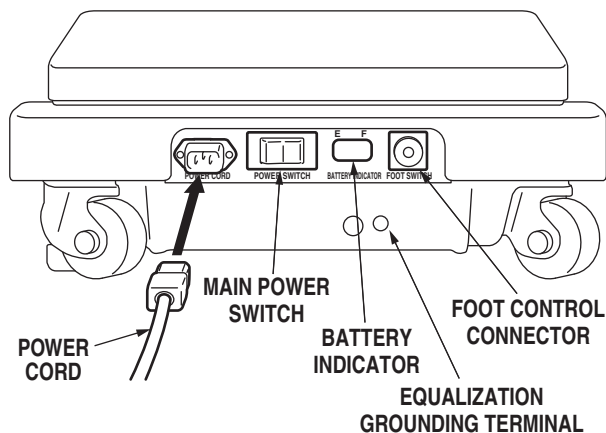

Figure 2-1. Electrical Panel
- a. Make sure the Power cord is securely attached to the table. To install the power cord, align the cord connector with the base connector, insert the cord into the connector until it locks in place. See figure 2-1. Plug the cord into a properly grounded, Hospital Grade, 100 - 240 VAC outlet. Make sure the power cord is routed to the outlet to prevent it from being in the way of operating personnel. To remove the power cord, and pull the cord connector out of the base connector.